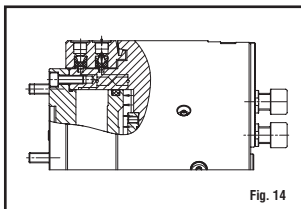

Fig. 14
- The above results in clamping of the workpiece (see Fig. 14).